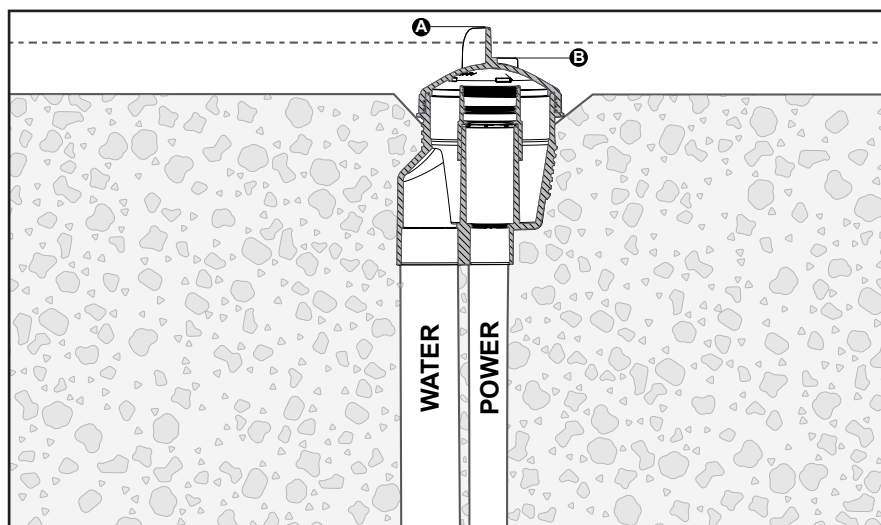

Figure 4. Bubbler Housing Installation Level
5. With the large construction cap on, install the Bubbler Housing onto the pipe so that the desired finished surface is above the lower indicator (B) and below the top of the cap (A). See figure 4